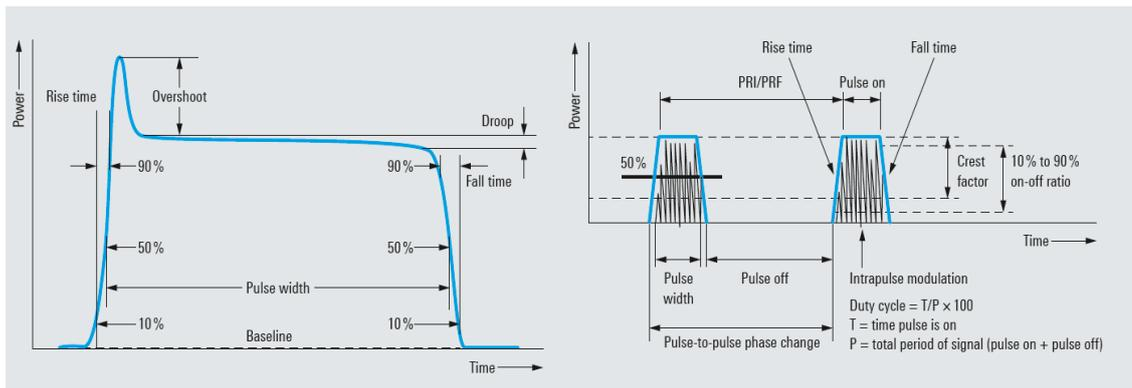

Figure 1: Pulse parameters
- Pulse parameters like PRI, pulse width, rise-/fall time, overshoot and droop as shown in Figure 1